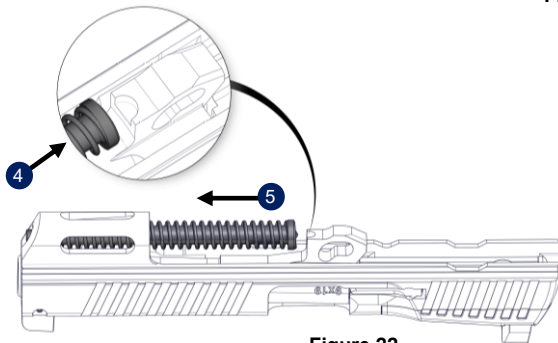

Figure 22
2. Insert the recoil spring (by manually pressing down towards the barrel), making sure that it is securely fitted into the recess (4) in the bottom lug of the barrel (5) (Figure 22).